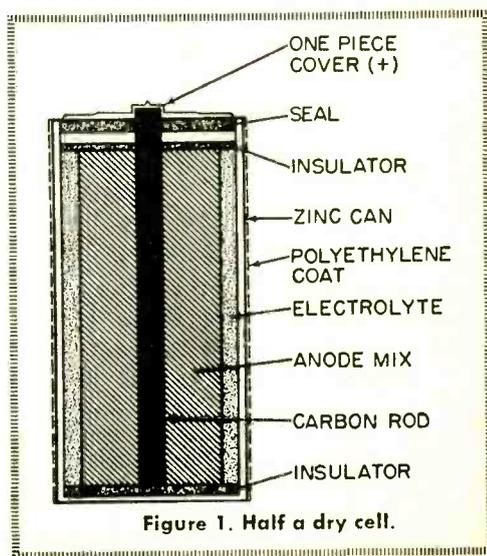

Figure 1. Half a dry cell.
As a typical example of construction let us take a standard size D flashlight cell and saw it in halves from top to bottom. The inside will look as shown in Fig. 1.
Figure 1 illustrates all of these characteristics. Note that when the forward voltage is below a certain level, but greater than zero, the diode does not conduct. After the diode begins to conduct, it can be seen that the conduction is nonlinear. This is shown by the curvature of the lines on the graph. Curve # 1 is a relative representation of a diode at a low temperature while curve 2 and 3 represent the conduction at higher and higher temperatures. The fact that the curves are not vertical just points out that there is a certain amount of resistance inherent in the diode at all times. As the diode current increases we see the curve become more and more vertical in nature, which means the resistance of the diode is dropping.
**Continuing.** Now let's start with zero volts at the input of circuit 2b and increase it in a positive direction. Any positive input value that is very small will be amplified 10,000 times. Hence, when the input voltage has reached only 0.05 millivolts the output at pin 6 will be 0.5 volts and the diode will begin to conduct. In other words, in circuit 2b an output voltage begins to appear at the circuit terminals immediately, and in circuit 2a, only after the input has reached +0.5 volts. For this reason, circuit 2b is sometimes referred to as a "perfect" rectifier. The output curve of this circuit is illustrated by the dotted lines in Fig. 1.